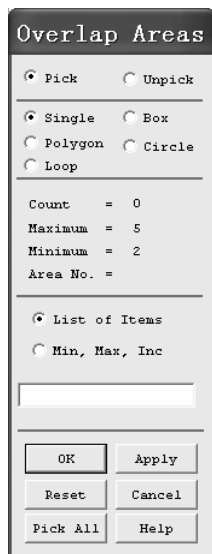

图 2-76 “Overlap Areas” 窗口
(3) 依次选择 Main Menu>Preprocessor>Modeling>Operate>Booleans>Overlap>Areas，弹出“Overlap Areas”窗口（见图 2-76），单击“Pick All”按钮对两个面进行重叠运算。